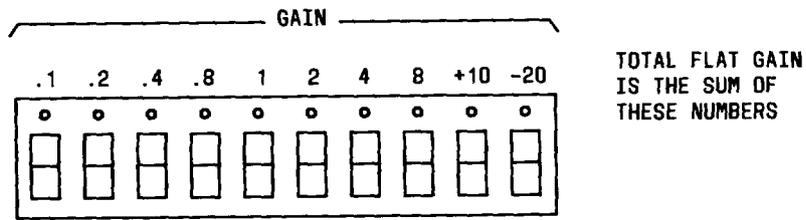

Fig. 9—Integrated Circuit Amplifier Unit Controls
2.05 The latest 4-2 and 2-4 repeaters (J99343RJ, RK) provide gain and equalization by new integrated circuits (IC). The gain adjustment for each amplifier is controlled by a set of ten miniature rocker switches located on the printed wiring board of the repeater (Fig. 9). These switches are designated in decibels .1, .2, .4 and .8 (fine adjust), 1, 2, 4, and 8 (course adjust) and $+1 \times 10$ and -2×10 (range (selection)). These switch values are additive. The -20 range should be selected when the repeater is to provide loss instead of gain.